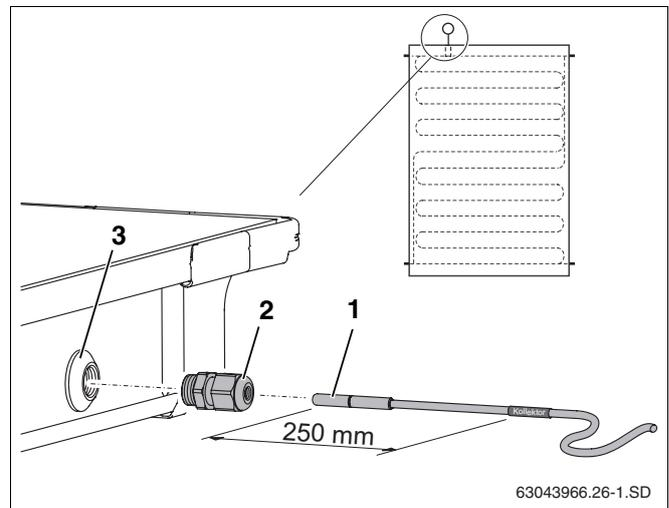

Fig. 54 Inserting the collector sensor into the collector
For perfect functioning of the solar heating system, the collector sensor (Fig. 54, **Item 1**) needs to be inserted into the sensor guide tube as far as it will go (approx. 250 mm).
- ▶ Using the collector sensor or screwdriver, push through the sealing membrane on the sensor bushing (Fig. 54, **Item 3**).
- ▶ Screw compression fitting (Fig. 54, **Item 2**) into sensor bushing.
- ▶ Tighten compression fitting (Fig. 54, **Item 2**), counterhold if necessary.
If you accidentally push through the sensor bushing (Fig. 54, **Item 3**) on the wrong collector, it can be resealed using the plug from the connection kit. You must first remove the nut in the sensor bushing using the cable gland (Fig. 54, **Item 2**).